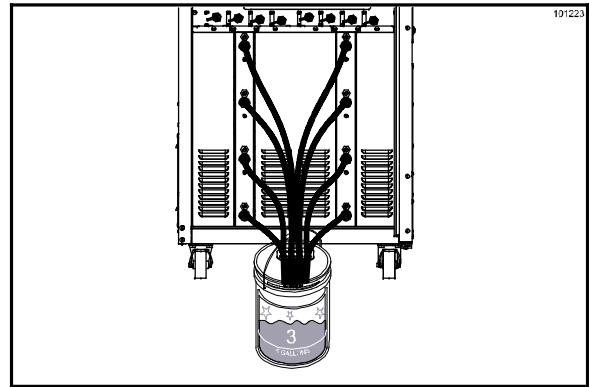

Figure 95
42. Remove the free end of the cleaning tubes from the pail of rinse water and place them into the pail of sanitizing solution. (See Figure 95.)